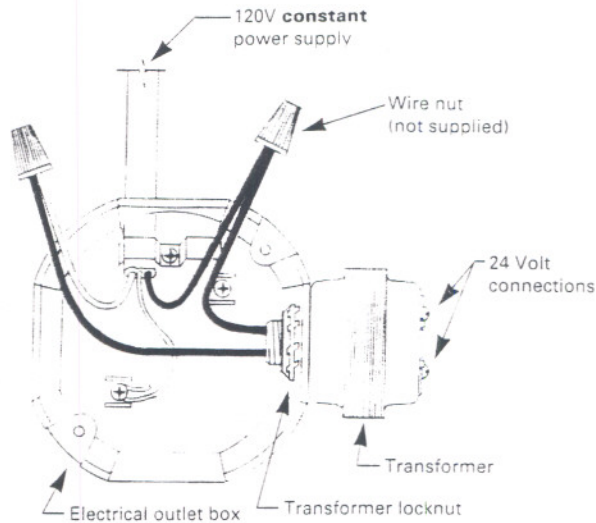

FIG. 14
3. Remove the **locknut** of the transformer and then insert the wire leads and threaded portion of the transformer into the knockout of the electrical outlet box. (Fig.14)